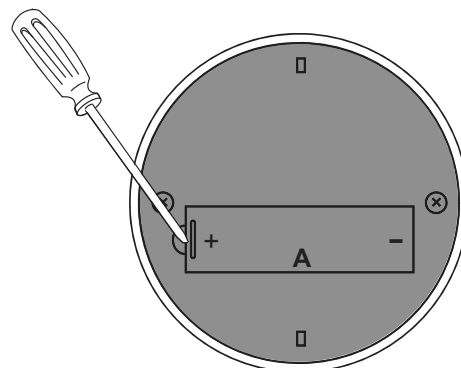

FIG. 2
Using a small flat head screwdriver, raise the cover of the battery door (A) in order to access the battery compartment. FIG. 2.